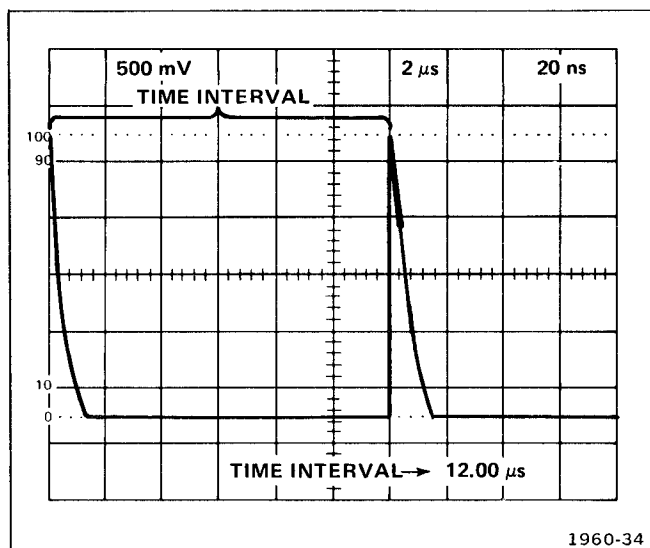

Fig. 1-8. Measuring time intervals from a triggering event (start of sweep) to any point on a waveform.
6. Set the vertical deflection factor and 7B85 sweep rate for the desired display. See the example in Fig. 1-8.
7. Set the delayed (B) unit sweep rate for about a 0.5 div intensified zone.
9. Read the time interval from the start of the sweep to the leading edge of the intensified zone directly on the crt readout (see Fig. 1-8).